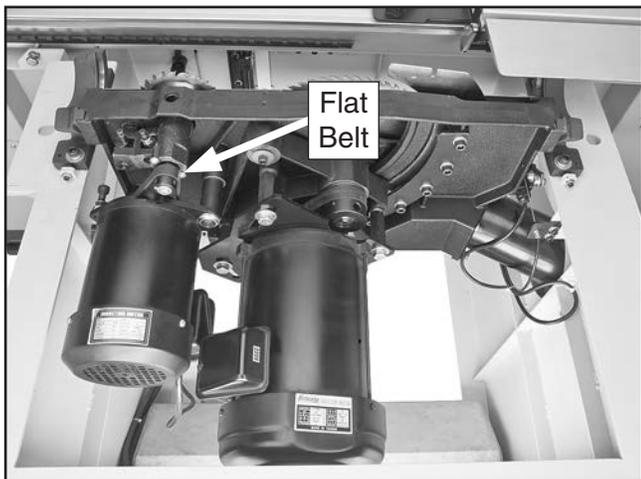

Figure 140. Scoring motor flat belt.
2. Lift up on the scoring motor, roll the old V-belt off the pulleys (see **Figure 140**).